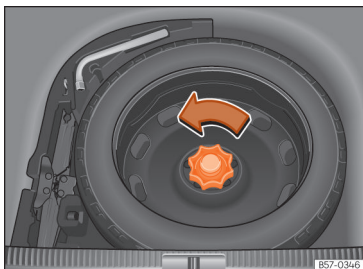

Fig. 218 In the luggage compartment: raised load floor.
- Turn the thumb wheel anticlockwise >>> **Fig. 218**.